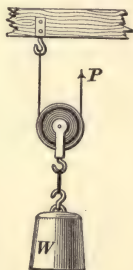
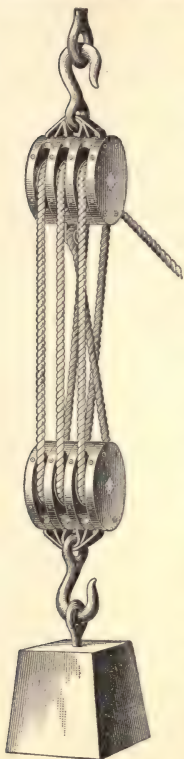

FIG. 29.
FIG. 31.
72. A *movable pulley* is one whose block is movable, as in Fig. 29. One end of the cord is fastened to the beam and the weight is suspended from the pulley, the other end
73. A *combination of pulleys*, as shown in Fig. 31, is sometimes used. In this case there are three movable and three fixed pulleys, and the amount of movement of W , owing to a certain movement of P , is readily found.
EXAMPLE.—In an ordinary block and tackle having six parts of the rope supporting the load, as shown in Fig. 31, how great a force must actually be applied to raise 2,000 pounds?
77. If the free end of the hauling rope passes first around a stationary sheave, as in Fig. 31, it does not make any difference in what direction in the plane of the sheave the rope is pulled. If it passes first around a movable sheave, however, as in Fig. 29, the pull must be exerted in a line parallel to the line of action of the resistance, or a line joining the